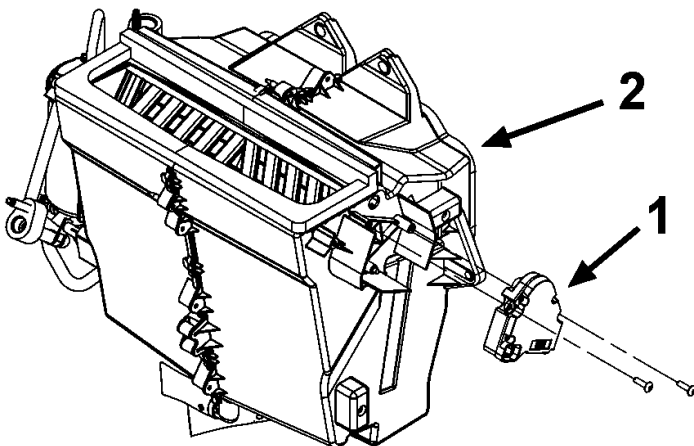

Figure 23 Actuator for Fresh/Recirc Air Door
NOTE – Refer to Figure 23 while performing the following Remove and Install procedures.
1. Disconnect wiring connector to actuator (1, Figure 23) for fresh/recirc air door.
1. Install actuator by rotating door until flats on door shaft align with actuator drive collar, then carefully slip the actuator (1, Figure 23) onto end of door shaft so that mounting holes are properly aligned, if possible. If actuator drive collar must be moved to allow alignment:
2. Secure actuator to evaporator housing (2) using two screws.